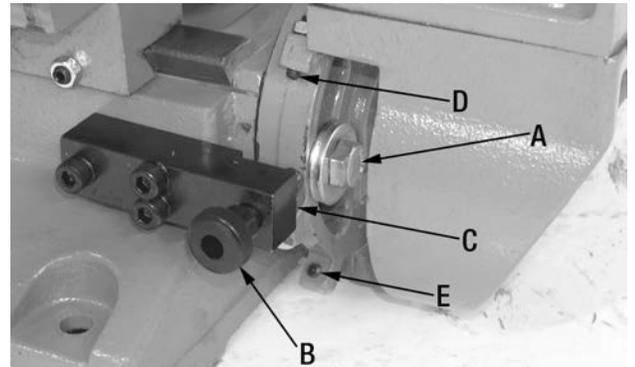
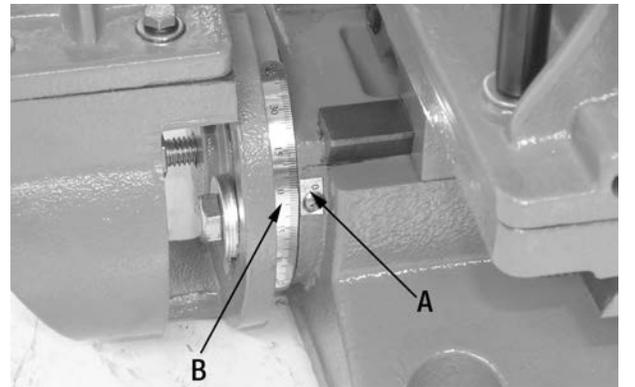
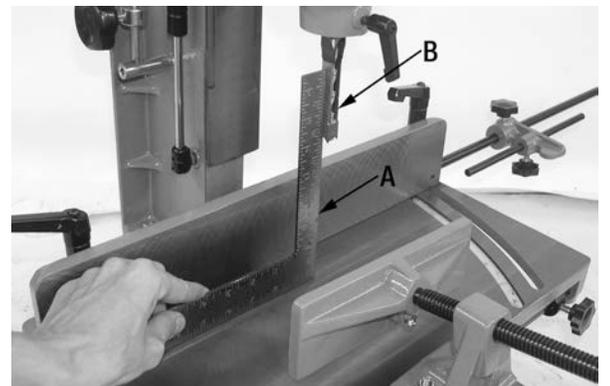

FIGURE 14
FIGURE 15
FIGURE 17
The head can be tilted from 0° to 30° toward the right or the left. To tilt the head, first begin by holding the head with one hand. Then with the other hand, loosen both head fixing hex. bolts (A) Fig.14 using a 19mm open ended wrench.
Then pull out the stop pin (B) Fig.14 and move the head to the desired angle. Line up the angle scale pointer (A) Fig.15 with the desired angle on the scale (B) Fig.15 and retighten both head fixing hex. bolts.
If you desire to quickly adjust the head angle to 0°, tilt the head until the stop pin (B) Fig.14 comes into contact with the 0° stop set screw (C) Fig.14.
If you desire to quickly adjust the head angle to 30°, for left tilt simply push the stop pin back in until it comes into contact with the 30° left tilt stop set screw (D) Fig.14.
For right tilts, pull out the stop pin (B) Fig.14 and tilt the head towards the right, push the stop pin back in (this is done to clear the 0° positive stop set screw) until it comes into contact with the 30° right tilt stop set screw (E).
The positive stop set screws (C, D & E-Fig.14) are adjusted properly at the factory, but after time, if you find that the angle is slightly off, an adjustment may be necessary.
Place a square (A) Fig.17 on the sliding table and against the chisel (B) and check if the chisel is perfectly perpendicular to the square. If an adjustment is needed, loosen both head fixing hex. bolts (A) Fig.14 using a 19mm open ended wrench.
To adjust the 30° positive stop set screws (D & E) Fig.14, use a 30° square or a protractor and follow the same procedures above.